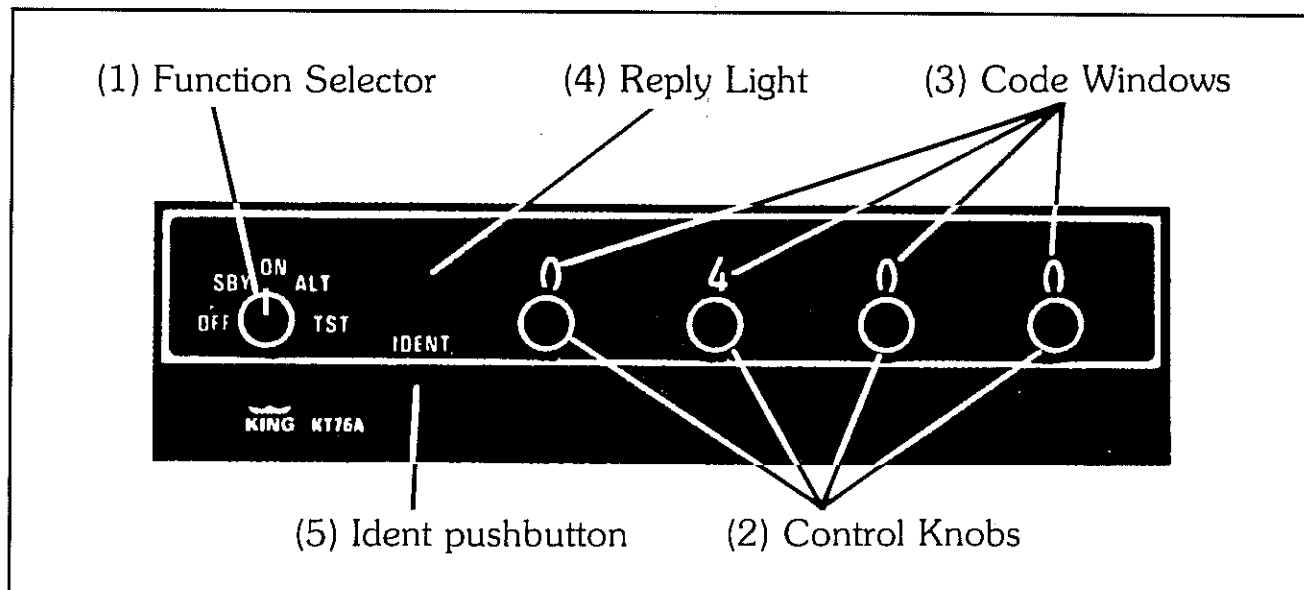

FIGURA 1.12 - IL TRANSPONDER KING KT 76A
□ Transponder King KT 76A a 4096 codici (figura 1.12).